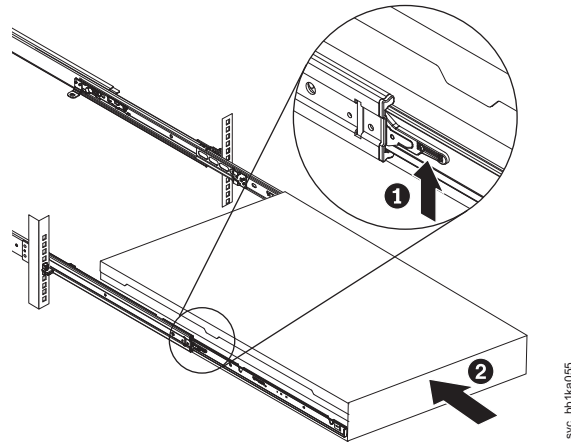

Figure 52. Raising the 2145-CG8 or 2145-CF8 locking levers of the slide rails of the rack
2. Lift the locking levers (**1** in Figure 52 on page 80) on the slide rails and push the server **2** all the way into the rack until it clicks into place.